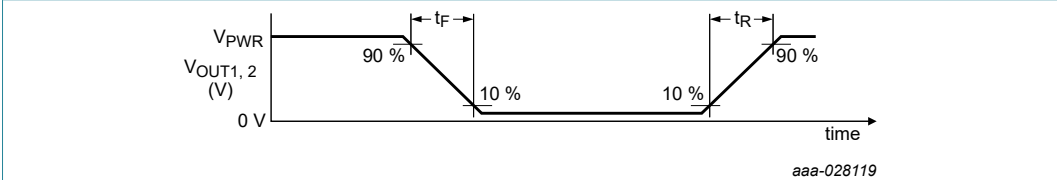

Figure 7. Output switching time
- [7] Rise time is from the 10 % to the 90 % level and fall time is from the 90 % to the 10 % level of the output signal with V_{PWR} = 14 V, R_{LOAD} = 3.0 Ω. See Figure 7.